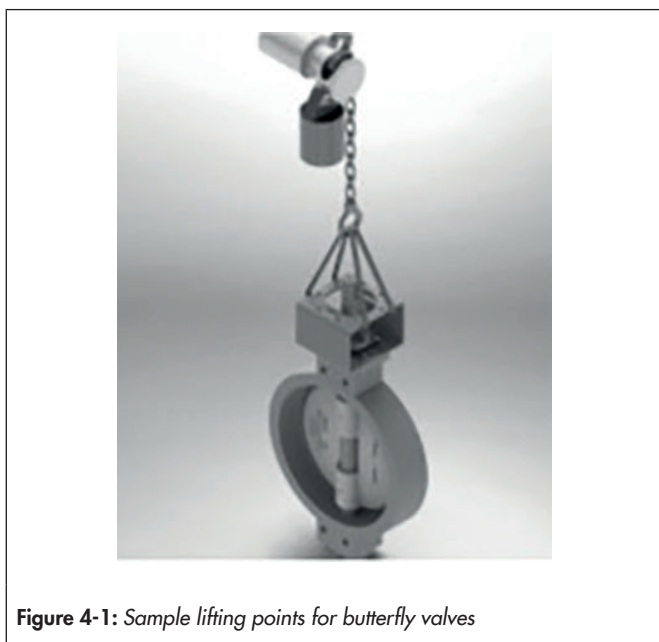

Figure 4-1: Sample lifting points for butterfly valves
- ⇒ Use a hook with a safety clamp as the suspension element, see Figure 4-1, so that the sling cannot slip off the hook during lifting and transport.